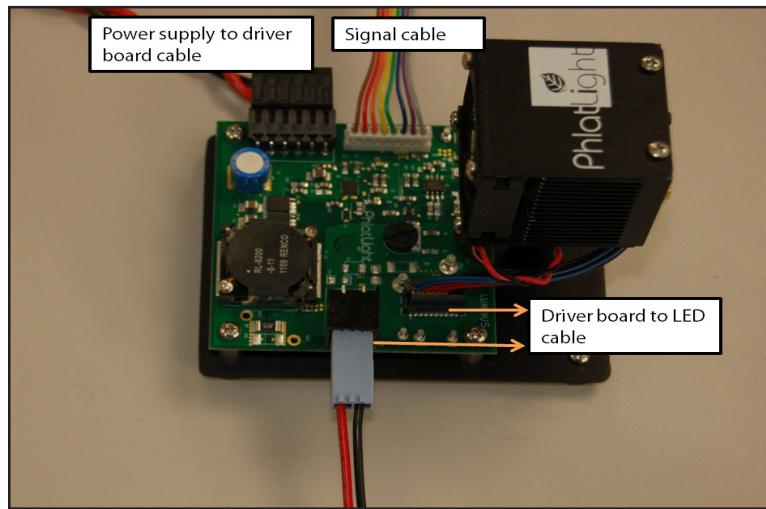

Figure 10: Completed electrical connections on DK-114N-1
2. Connect the driver board to the LED and the power supply using the cables provided in the kit . The choice of the driver board to LED cables is based on the LED connector— LEDs such as PT-39, PT-54 and CBT-40 require the appropriate variant of the shorter 3" cable while LEDs such as CBT-90, PT-120 and CBT-120 with the 2 pin spade connector require the longer cable. Figure 10 illustrates the electrical connections to the driver board; while both types of driver board to LED cables are shown for illustration, only one is required.